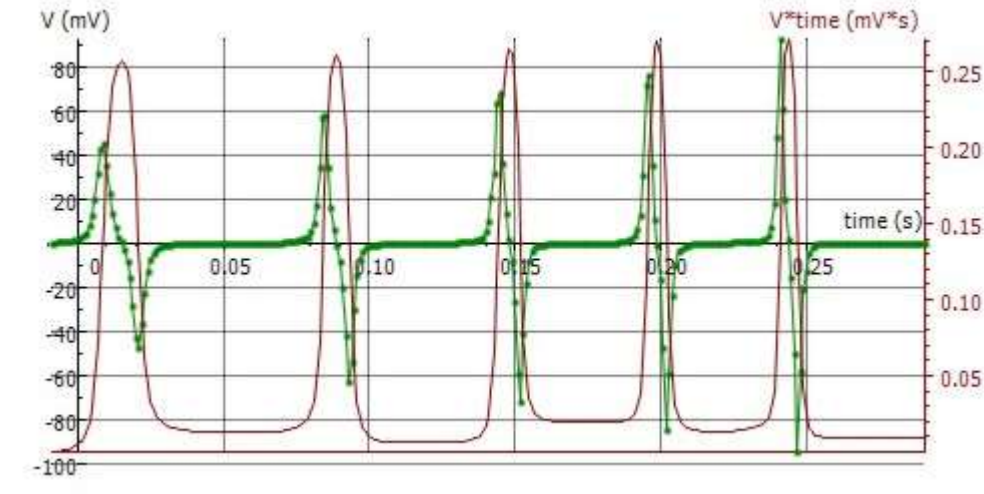

Fig. 3: Change in induced voltage  $U$  and magnetic flux  $\Phi$  over time
In the experiment, a permanent bar magnet is allowed to fall through six identical induction coils that are connected in series. The induced voltage is recorded as a function of time (green curve in Fig. 3).
The green curve in Fig. 3 shows the trace of how voltage changes over time.
The plot in the "Integral" window shows the variable "V\*t" in units of "mV\*s" (violet curve in Fig. 3). This corresponds to the magnetic flux  $\Phi$  in equation (2)
The magnetic flux reaches a maximum when the induced voltage returns to zero (Fig. 3), i.e. when the magnet has reached the centre of the coil. The area of the surfaces under all the positive and negative signal peaks remains the same in absolute terms (see above). This corresponds to the maximum magnetic flux  $\Phi$  of the permanent magnet inside an individual coil. The maximum magnetic flux therefore reaches the same value of  $\Phi_{\max} \approx 250 \mu\text{Vs}$  within the given measurement tolerances.